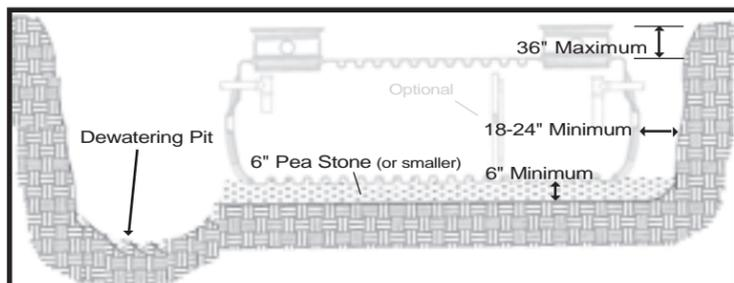

FIG. 1 Excavation
- Width and length of excavation shall be 18-24" greater than the tank on all sides and ends (FIG.1).
- Depth of the excavation shall be 6" greater than the tank (FIG.1).
- Add pea stone, sand, gravel or other similar granular material to bed the tank and ensure uniform compaction and that bed is level (FIG.1)